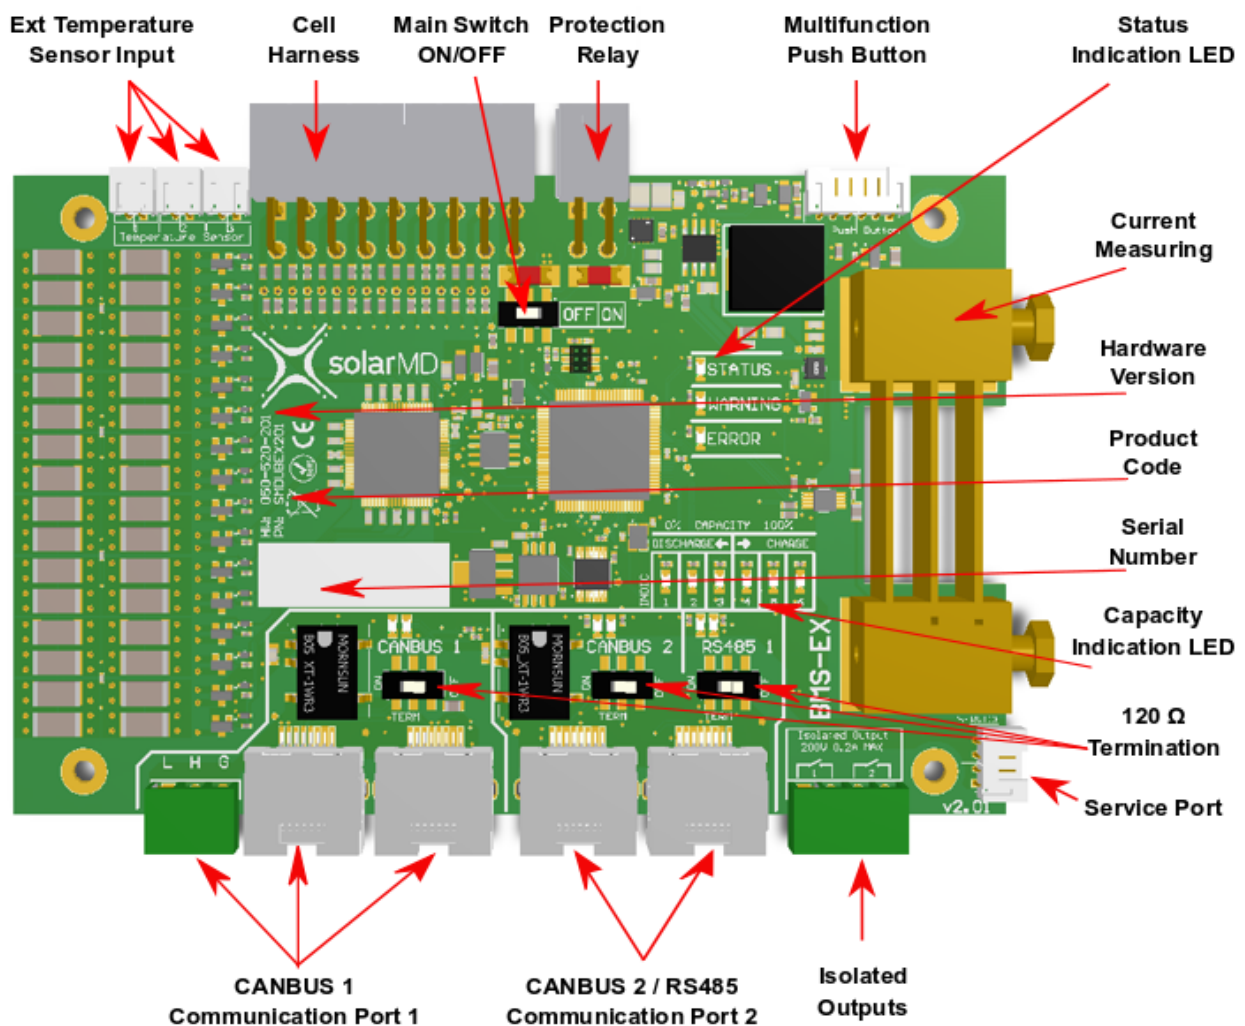

Figure 4 BMS board component locations
Step 1. Before connecting anything be sure that the battery ON/OFF switch is at OFF position. (fig4 pos 3)
Step 3. Turn the BMS board ON/OFF switch to the ON position (figure 4 pos 3).
Step 4. Connect Multipurpose button if not connected to the BMS board connector (figure 4 pos 5).